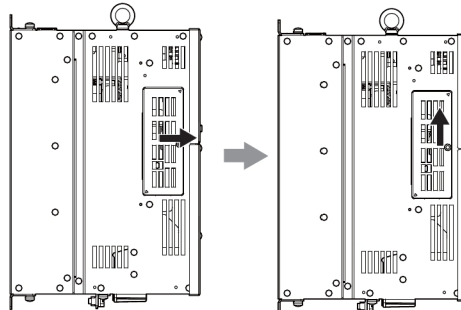

Figure 12: Slide the Connector Cover
2. Slide the connector cover as shown in Figure 12.